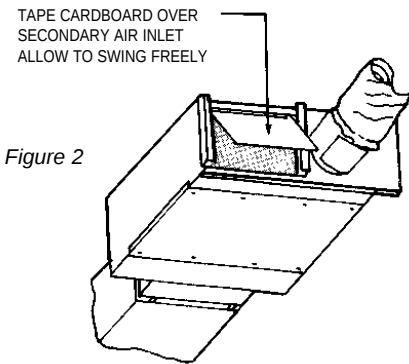

Figure 2
3. Tape a piece of cardboard onto the secondary air inlet. Size the cardboard 1/2" less than the height and 1/2" less than the width of the secondary inlet opening allow it to swing freely when taped in place. (Figure 2)